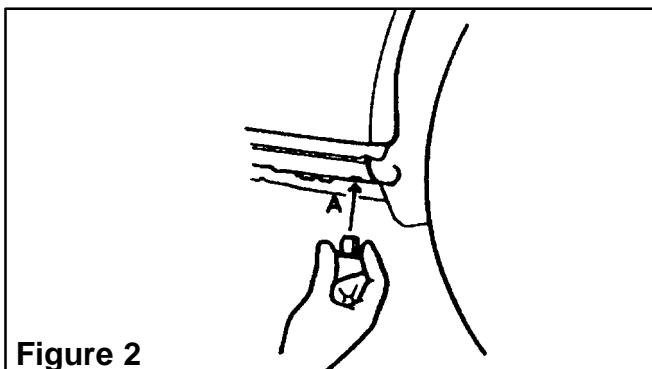

Figure 2
2. Insert the round flanged grommet (supplied in the kit) into hole, at point A, at bottom of fender well (See Figure 2).